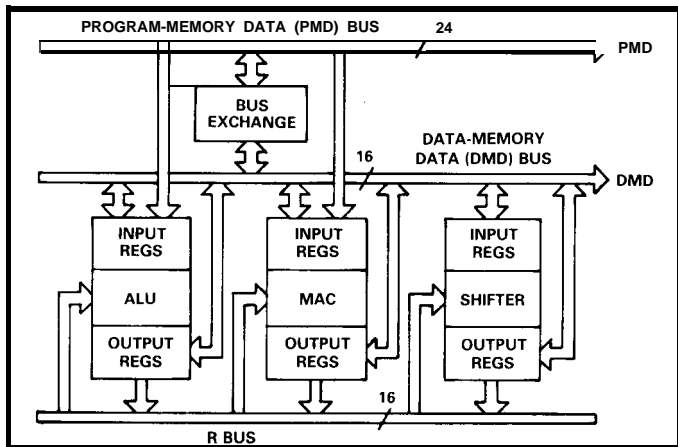

Figure 4—The ADSP-2100's arithmetic section is quite different from most non-DSP microprocessors.
The arithmetic section of the ADSP-2100 has three computational units, shown in Figure 4, linked but independent of each other. The arithmetic and logic unit (ALU), multiplier/accumulator (MAC), and barrel shifter are connected via the results (R) bus, so that the output of any unit can be used as input for itself or any other unit on the next cycle. Operands for the ALU and MAC can come from program or data memory, or various registers.